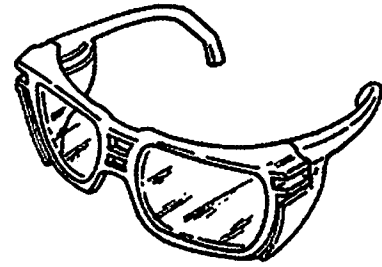

FIGURE 1
- You will need a pair of safety glasses (fig. 1).